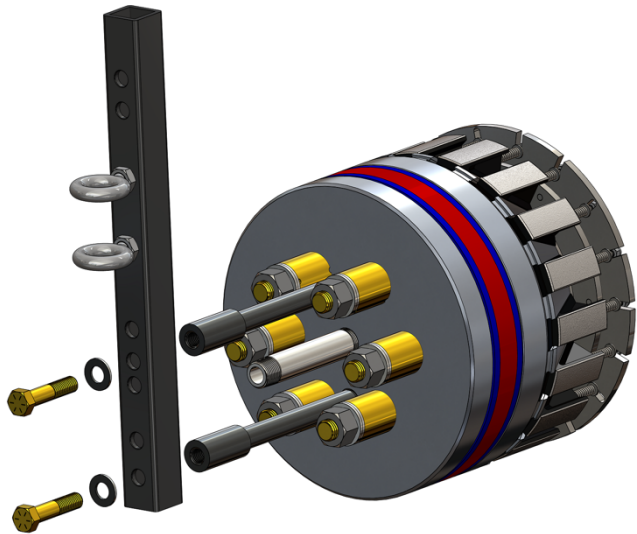

Figure 12: Aligning and fastening Telescoping Lifting Attachment on to Lifting Standoffs
- 9.2 Line up the holes on the **Telescoping Lifting Attachment(25)**, with the internally threaded holes on the **Lifting Standoffs(26)**. Fasten the **Telescoping Lifting Attachment(25)** on to the **Lifting Standoffs(26)** with the provided **Lifting Device Bolts(27)** and **Washers(28)**. See Figure 12.